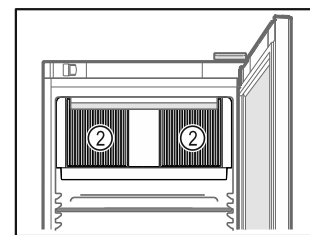

Fig. 64
- ❑ Ventilation slots Fig. 64 (2) for recirculation fan in the interior must be kept clear.